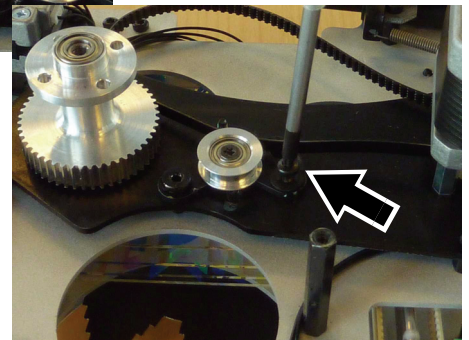

Figure 14
16. See Figure 14. Replace the color wheel pulley on its shaft so that the teeth in the pulley engage in the color wheel drive belt. Fasten the color wheel pulley onto its shaft with the Torx 20 M4 screw you removed in step 5.
17. The color wheel drive belt tensioner auto-adjusts under spring pressure to give the correct tension. Check that the drive belt is correctly seated on all its pulleys and that the tensioner spring is holding the belt under tension, then tighten the tensioner locking screw (arrowed in Figure 14) without disturbing the automatic belt tension.